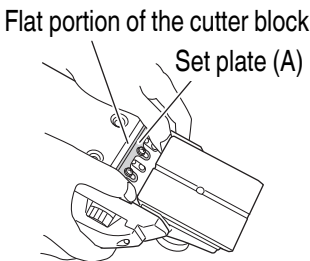
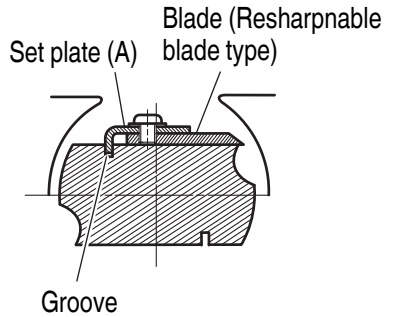

Fig. 19
Fig. 22
- (5) As shown in **Fig. 19, 20**, insert a turned portion of set plate (A) attached to set plate (B) into a groove on the flat portion of the cutter block.
- (1) Insert a turned portion of set plate (A) attached to the blade into a groove on the flat portion of the cutter block. (**Fig. 19 on page 21 and Fig. 22**)